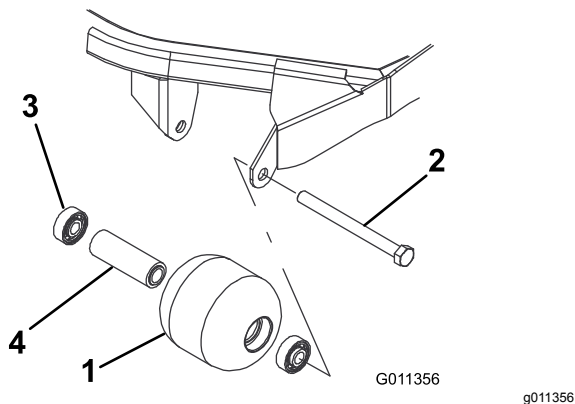

Figure 61
1. Remove the roller-mounting bolt (Figure 61).
1. Press the first bearing into the roller housing (Figure 61). Press on the outer race only or equally on the inner and outer race.
2. Insert the spacer (Figure 61).
3. Press the second bearing into the roller housing (Figure 61). Pressing equally on the inner and outer race until the inner race comes in contact with the spacer.
4. Inspect the roller housing, bearings, and bearing spacer for damage (Figure 61). Replace any damaged components and assemble them.